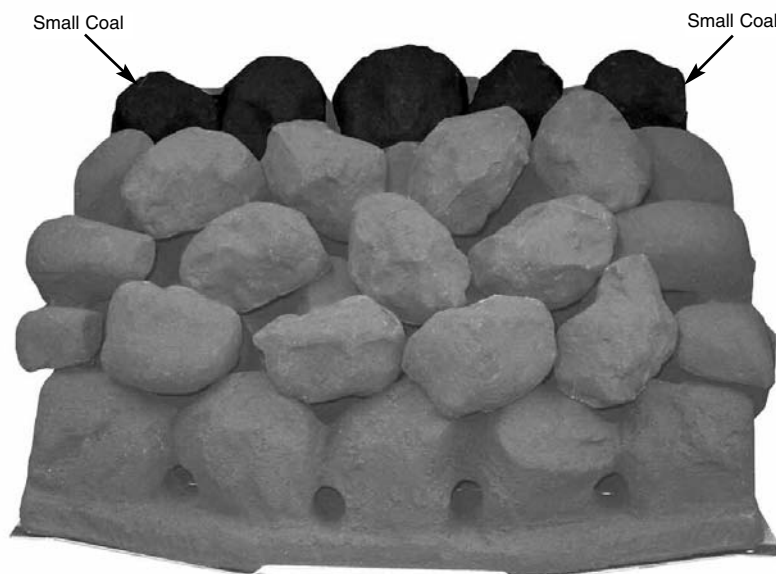

Fig. 24
8. Place the next three coals in the middle, on the back edge of the coals previously laid ensuring even gaps all round. Finally place the two small coals, one in each top corner. Make any adjustments necessary to achieve even gaps as this will help in giving a well balanced flame picture and an even glow (Fig. 24).